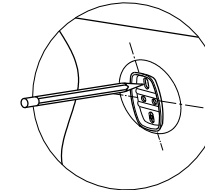
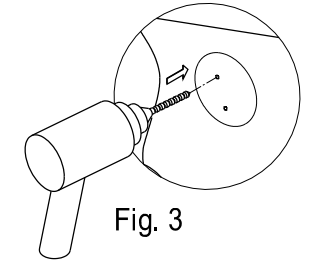

Fig. 2
Fig. 3
Step 3. Place the mounting plate in the center of the pencil outline you just made and mark the location of the mounting screws (fig. 2). Drill holes at the marked locations (fig. 3).